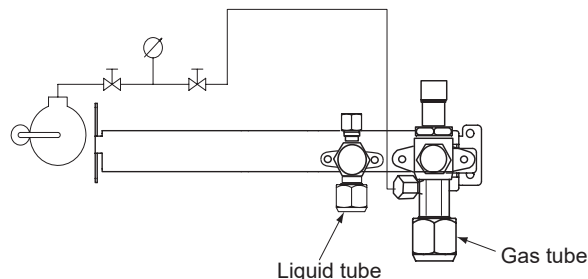

Fig. 2-2
- (6) Both the gas and liquid tube service valves are open. If not, open them now. (Fig. 2-2)
- (7) Request that the customer be present for the test run. Explain the contents of the instruction manual, and then have the customer actually operate the system.
- (8) Be sure to give the instruction manual and warranty certificate to the customer.
- (9) When replacing the control PCB, be sure to make all the same settings on the new PCB as were in use before replacement. The existing EEPROM is not changed, and is connected to the new control PCB.